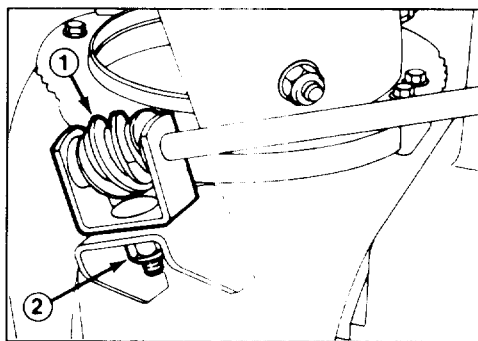

Figure 11
2. Apply No. 2 general purpose grease to worm gear. Next, mount worm gear and bracket to mounting flange and secure with pyramidal washer and locknut (Fig. 11).
3. Slide worm gear into teeth of chute retaining ring and tighten locknut (Fig. 11).